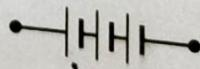

Fig. 3.2.
2. Battery : When a number of cells are connected in series, parallel or series and parallel, they form a **battery**. In electrical circuits the battery is represented by the symbol shown in Fig. 3.2.